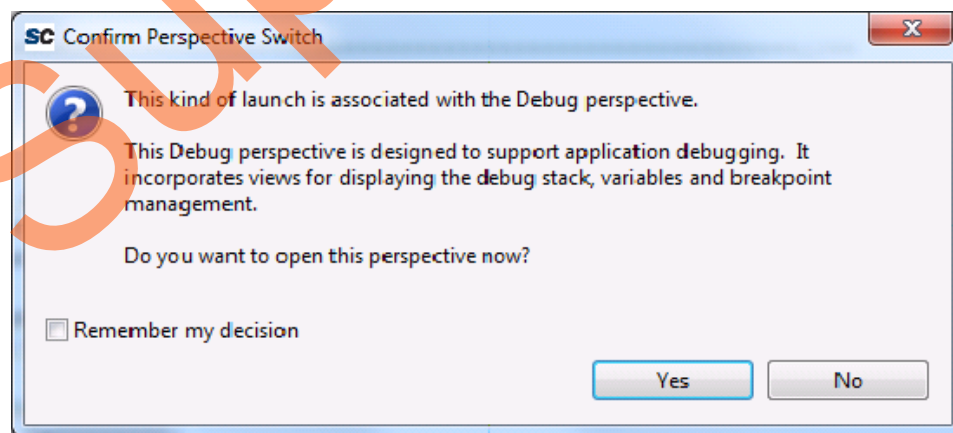

Figure 28 • Confirm Perspective Switch
4. On the **Confirm Perspective Switch** window, click **Yes**, as shown in Figure 28.